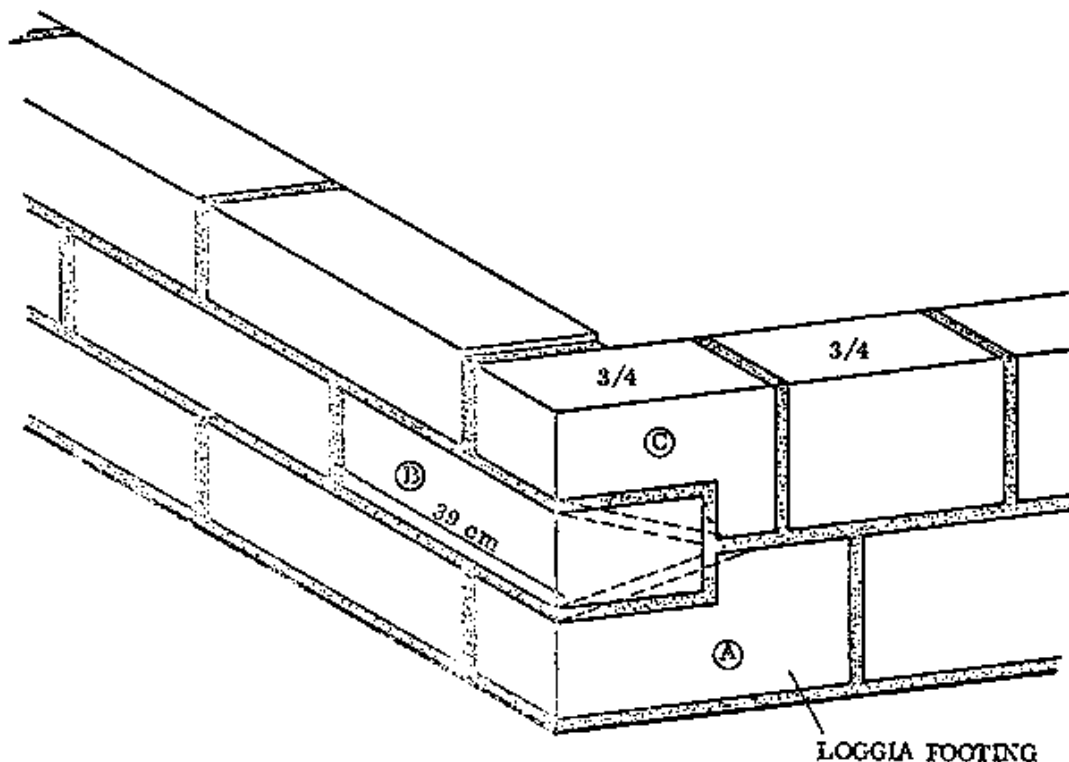

Fig. 2
- COMMON BLOCKS, FLUSH TO OUTSIDE: Fig. 2 shows that both quoin stretchers of the edgewise courses (blocks A and C) have to be cut to an odd shape to fit together with the flatwise quoin header of the second course (block B). In order to maintain the half-block bond, block B has to be cut to a length of 39 cm.